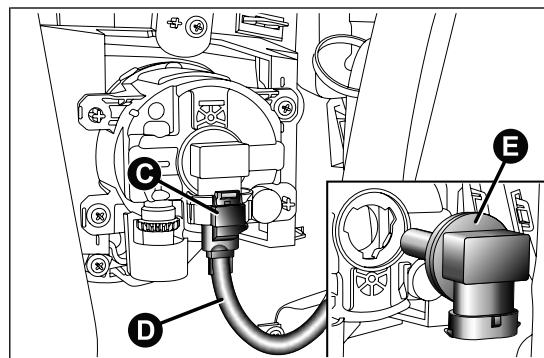

fig. 126
- ☐ adjust the catch C fig. 126 and disconnect the electrical connector D;